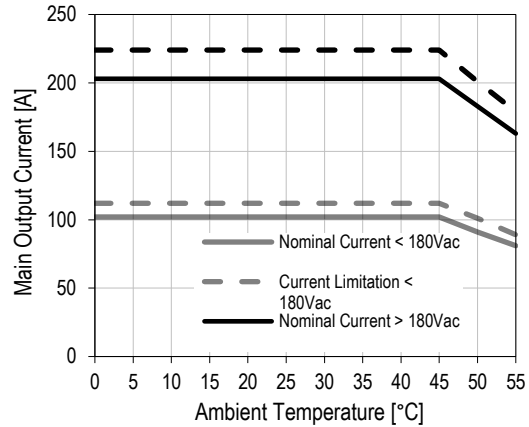

Figure 24. Derating on  $V_1$  vs  $T_a$  &  $V_{in}$
3) See Figure 24 and Table 1 for linear derating > 45°C
The main output current limitation level  $I_{V_1\text{ lim}}$  will decrease if the ambient (inlet) temperature increases beyond 45 °C (see Figure 24 and Table 1). Note that the current limitation on  $V_1$  will kick in at a current level approximately 10A-16A higher nominal output current than is shown.